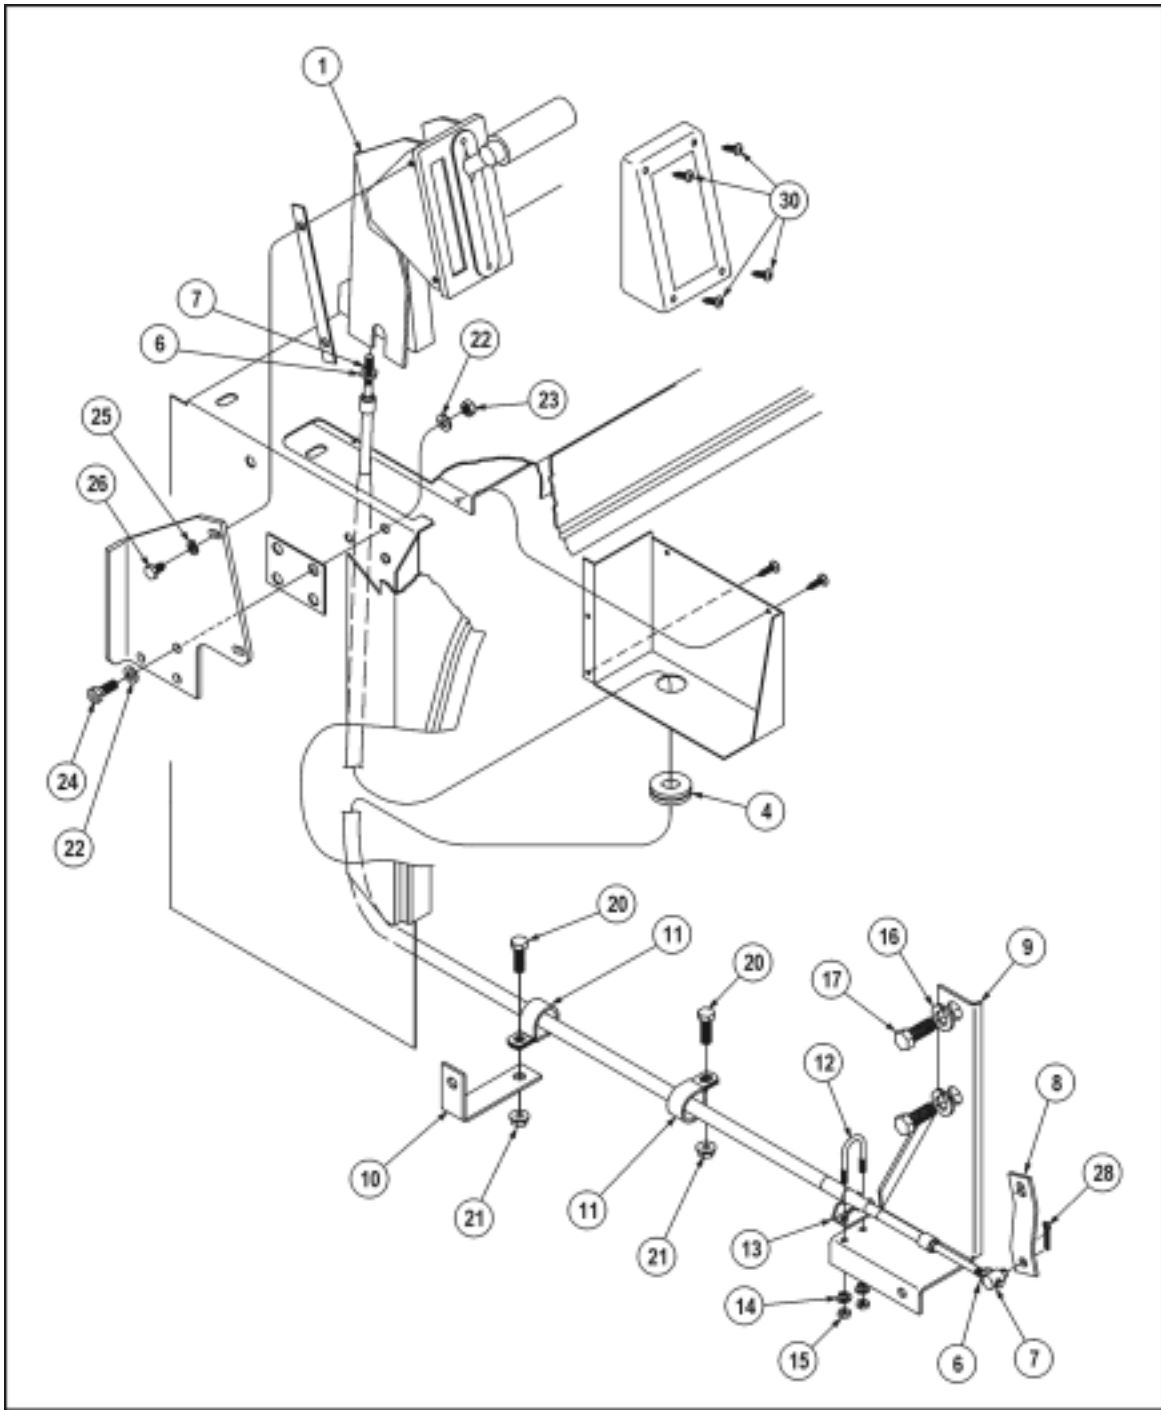

Figure 7—Shifter Cable
1. Remove four Phillips head screws (30) from the shifter lever cover. **Figure 7.**
3. Remove capscrews (26) and lock washers (25) from two places. **Figure 7.**
4. Pull shifter selector assembly (1) forward and to the side to remove the cotter pin (not shown) from the trunnion (7) at the end of the shifter cable.
1. Spray the grommet (4) lightly with silicon lubricant to facilitate the insertion of the shifter cable housing. **Figure 7.**
3. Carefully route the new shifter cable assembly as shown in **Figure 7.**
4. Loosely install the shifter cable holders (11).
5. Install shifter cable assembly bracket (9) with lockwashers (16) and capscrews (17). Torque to non-specified torque as listed in Section 005—Introduction.
3. Install the trunnion (not shown) into the shift selector assembly (1). **Figure 7.**
5. Install capscrews (26) and lock washers (25) in two places to install the shifter assembly into the dash mount.
7. Install four Phillips head screws (30).